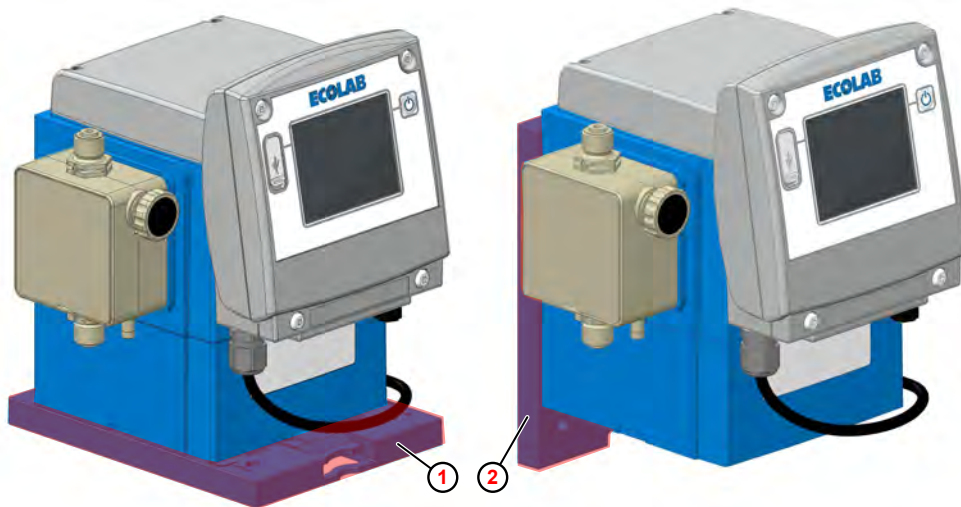

Fig. 13: Countertop and wall-mounting
① Countertop-mounting
② Wall mounting
With the mounting plate, the pump can be mounted either standing (e.g. on a bracket or on the metering container (Fig. 13 , ①), or hung on a wall ②).